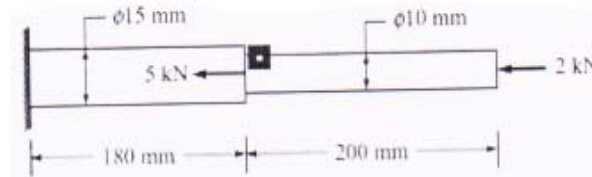

Figure 2
- Q9)** a) For a stepped bar subjected to an axial compressive loads as shown in Figure 2, find stresses in each bar. Assume young's modulus of material of bar as 200G Pa. [8]